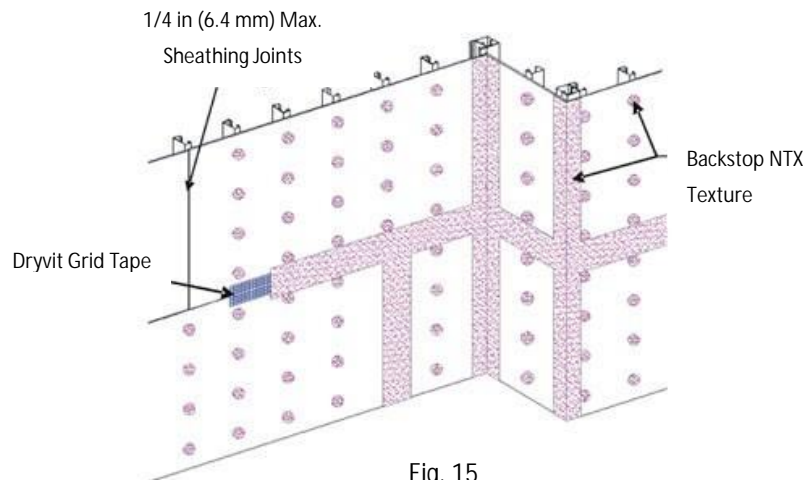

Fig. 15
- 1) Apply Dryvit Grid Tape as described in Section VI.E.1 above. Mix the Backstop NTX - Texture material as described in Section III.B.2. Using a stainless steel trowel or spatula, apply a layer of Backstop NTX - Texture over the Dryvit Grid Tape and spot all fastener heads – Figure 15.